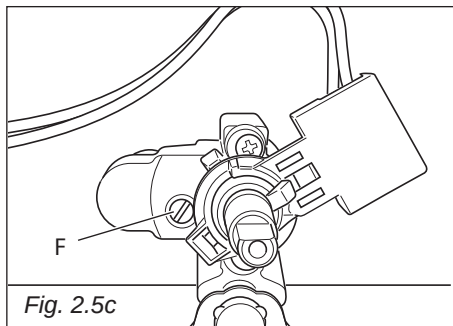

Fig. 2.5c
- With a thin screwdriver turn the screw "F" until adjustment is correct (fig. 2.5c).